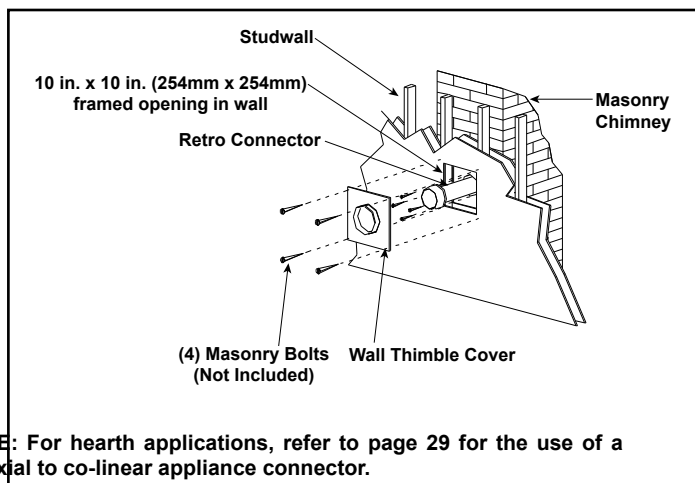

Figure 4.25
2. Once the center point of the penetration has been determined, cut a 6 in. (152mm) diameter hole in the masonry. If the hole is too large, the retro connector might not mount properly; if the hole is too small, the appliance might starve for intake air. If there is a frame wall in front of the masonry wall, cut and frame a 10 in. (254mm) square opening in the wall (centered around the 6 in. (152mm) masonry opening). If there is sheet rock only (no studs) in front of the masonry the 10 in. (254mm) opening is still needed, but does not need to be framed. If the hole is framed a wall thimble is required. This allows the retro connector to mount directly on the masonry and provide the correct clearances to combustibles. See Figure 4.25.
10. Slide wall thimble cover over retro connector and secure with masonry bolts. See Figure 4.30. If you have a framed wall in front of the masonry, use wood screws to mount wall thimble cover to framed wall, over retro connector and 10 in. (254mm) square framed opening See Figure 4.25. If needed, add a section of direct vent pipe to the retro connector in order to extend through the opening in the wall thimble cover.